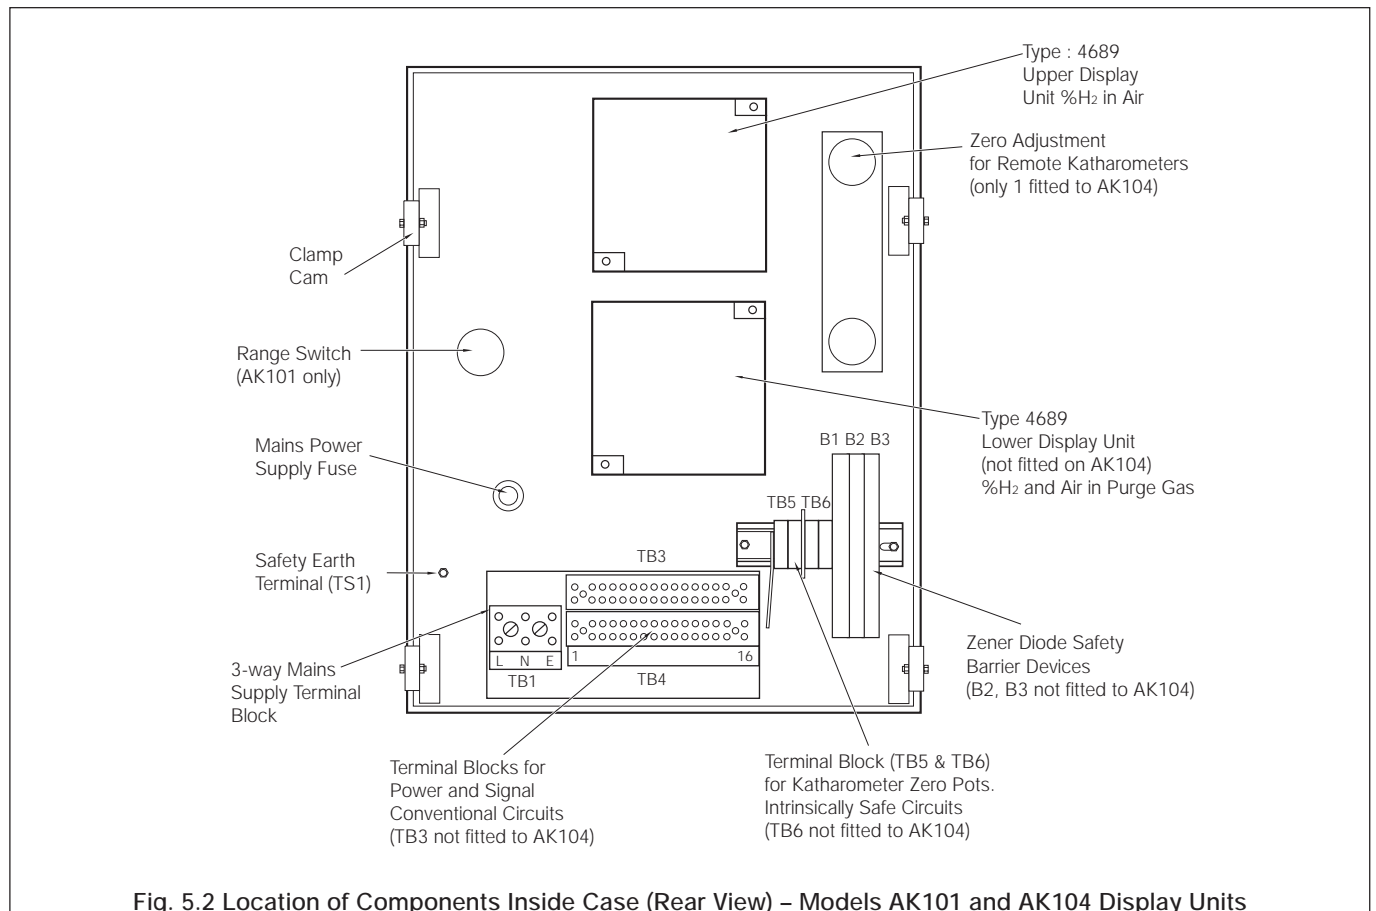

Fig. 5.2 Location of Components Inside Case (Rear View) – Models AK101 and AK104 Display Units
5.1.1 Model 6553 Display Unit – Fig. 5.2
Make electrical connections through the bottom of the unit into the terminal blocks immediately above them – see Fig. 5.2.
Make the Earth (Ground) and **Safety Earth** connection at the stud (TS1) – see Fig. 5.2.